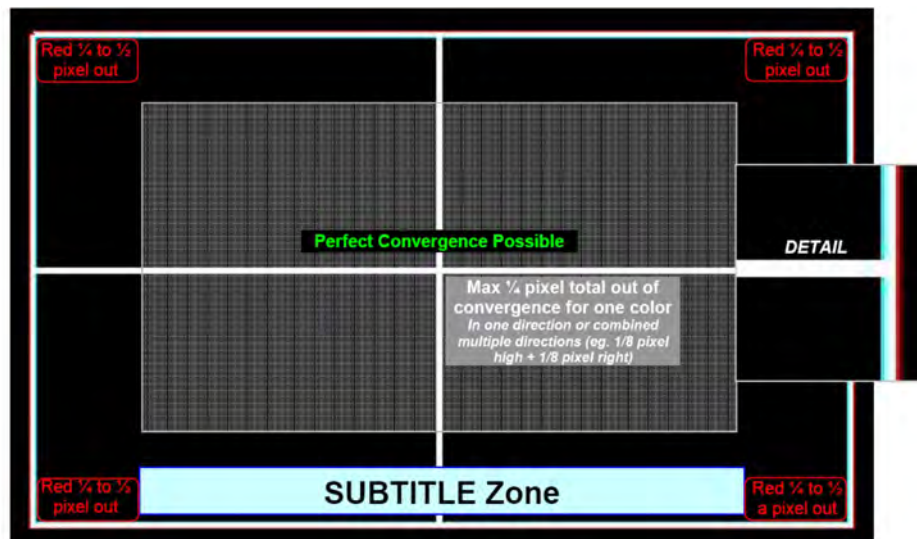

Figure 3-17 Best Possible Convergence
- a. This means that the best possible convergence would be described as follows: The center area highlighted in **Figure 3-17** should be perfectly aligned showing solid white pixels, as shown in the simplified diagram. (**Figure 3-17**)
- b. The Red should be evenly $\frac{1}{4}$ to $\frac{1}{2}$ a pixel out all the way around the outer area not highlighted in **Figure 3-17**, showing cyan (green+blue) towards the center of the screen, as shown in the simplified diagram. (**Figure 3-17**)